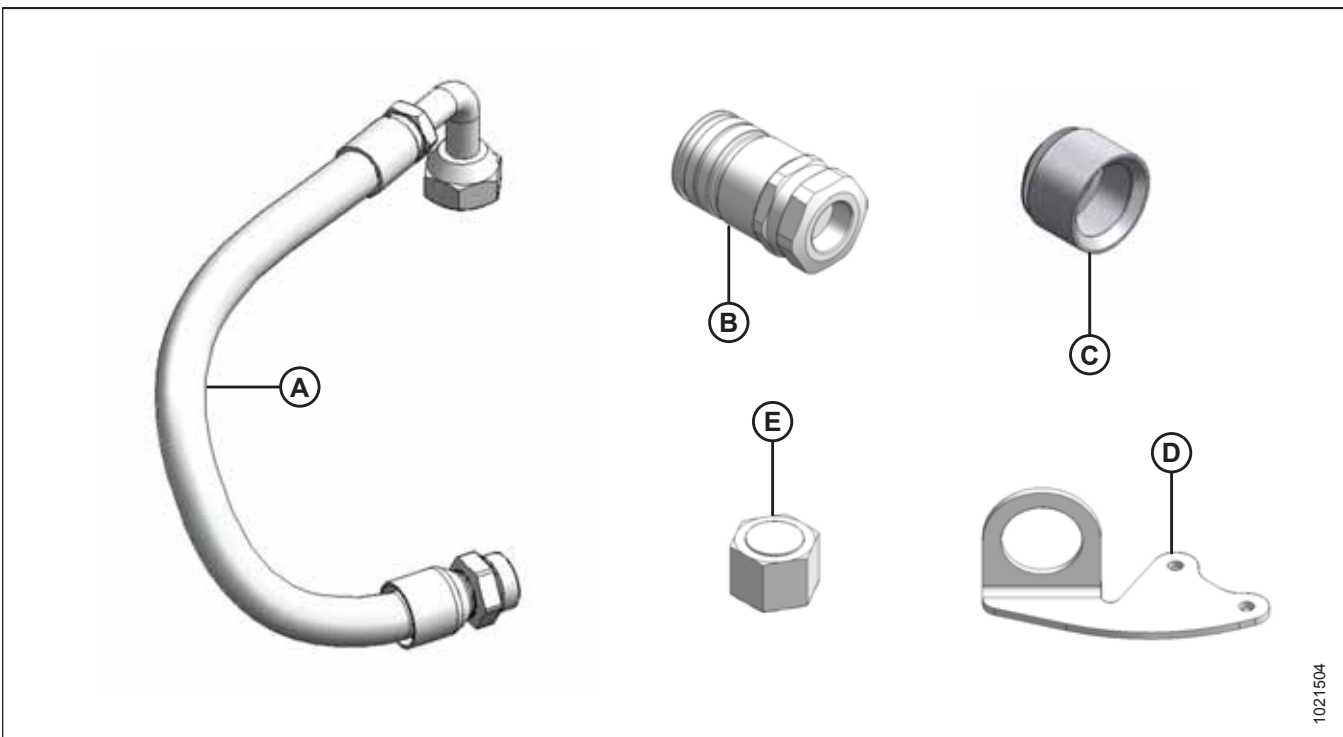

Figure 4.129: Hydraulic Drive Parts – M1170 Only
11. Retrieve the parts shown in Figure 4.129, page 98 from the bag located inside left header support.
12. Connect female coupler (B) to hose (A).